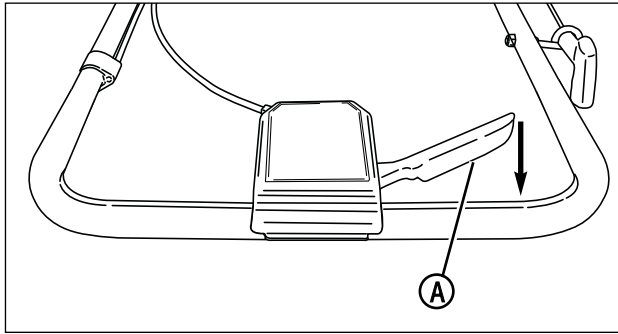

Figure 4: Wheel drive control
2. Begin squeezing the wheel drive control (**A, Figure 4**) back toward the handle to engage the wheel drive and propel the mower forward. Forward speed can be increased by squeezing the wheel drive control further back toward the handle.
1. Remove the wingnuts (**A, Figure 4**), washers (not shown), and bolts (**B**) from the right and left handle brackets (**C**).